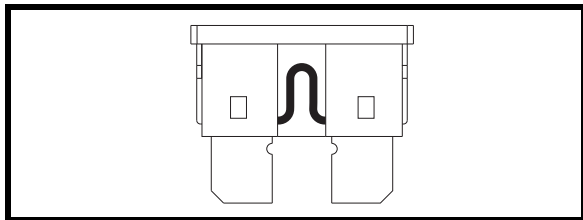

Figure 22. Working Fuse
2. Examine the fuse to be sure it is blown. **See figures 22 and 22A.**